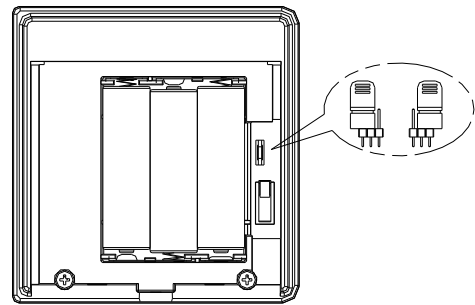

Fig. 3
4. There is one jumper link located adjacent to the battery compartment. (Fig. 3)